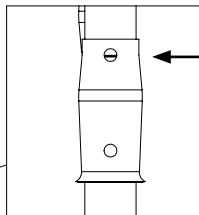

Fig. A1.04a
- Legs of the Stacking Frame must lie flat. (Fig. A1.04a)